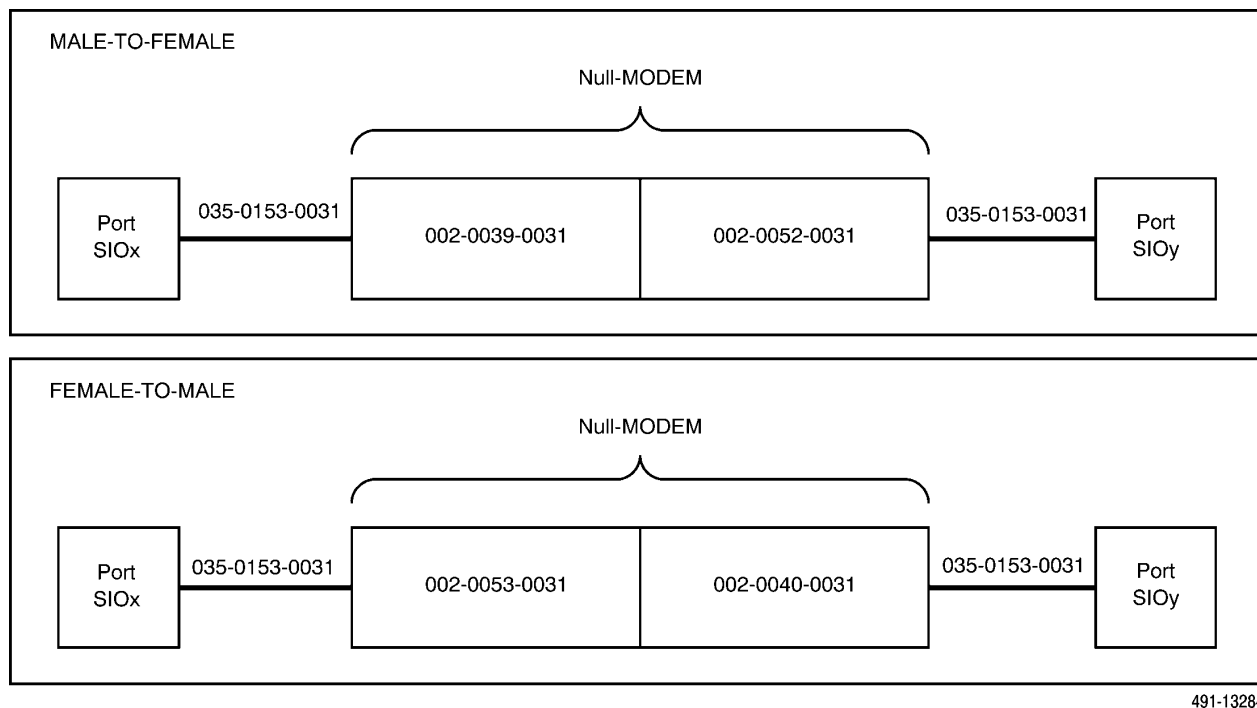

Figure 8-4. Port-to-Port Connections
- a. Connect one end of one of the 035-0153-0031 cables to the transmitting port (SIOx) on the IPC-900, and connect the other end of the cable to the 002-0039-0031 or 002-0053-0031 connector, as shown in Figure 8-4.